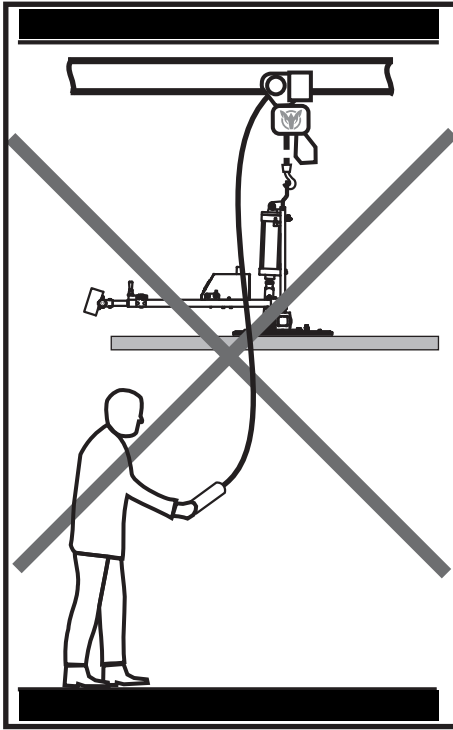

Figure 06
- Standing under suspended loads (see **Figure 06 on page 7**).